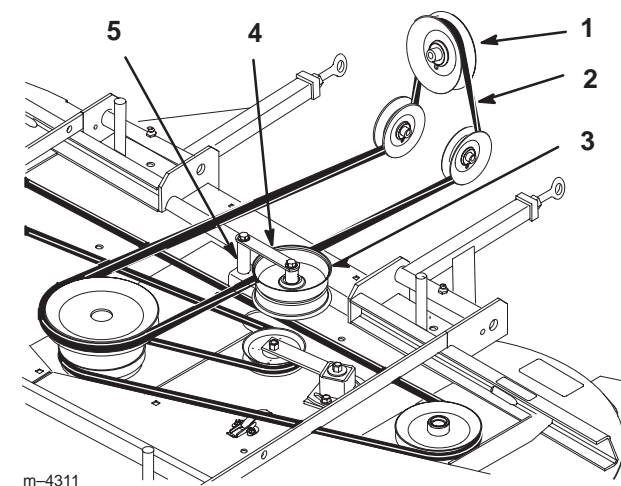

Figure 66
3. Remove PTO drive belt from clutch, around rear idler pulleys and off of mower top center pulley (Fig. 66).
4. Remove bolt, nut, washer and spacer from idler pulley bracket assembly. Remove belt from bracket assembly (Fig. 66).
6. Install belt into idler pulley bracket assembly. Install bolt, nut, washer and spacer into assembly (Fig. 66).